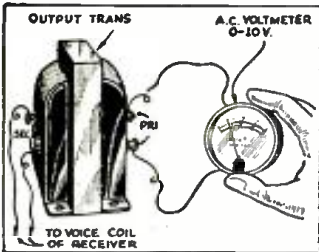

Fig. 3. Boosting meter range.
**OUTPUT METER.** An ordinary A.C. voltmeter may be used as a sensitive output meter by connecting it with an output transformer as shown in Fig. 3. Without the transformer, the meter will not give a satisfactory reading on the low volume required when testing receivers which have A.V.C.